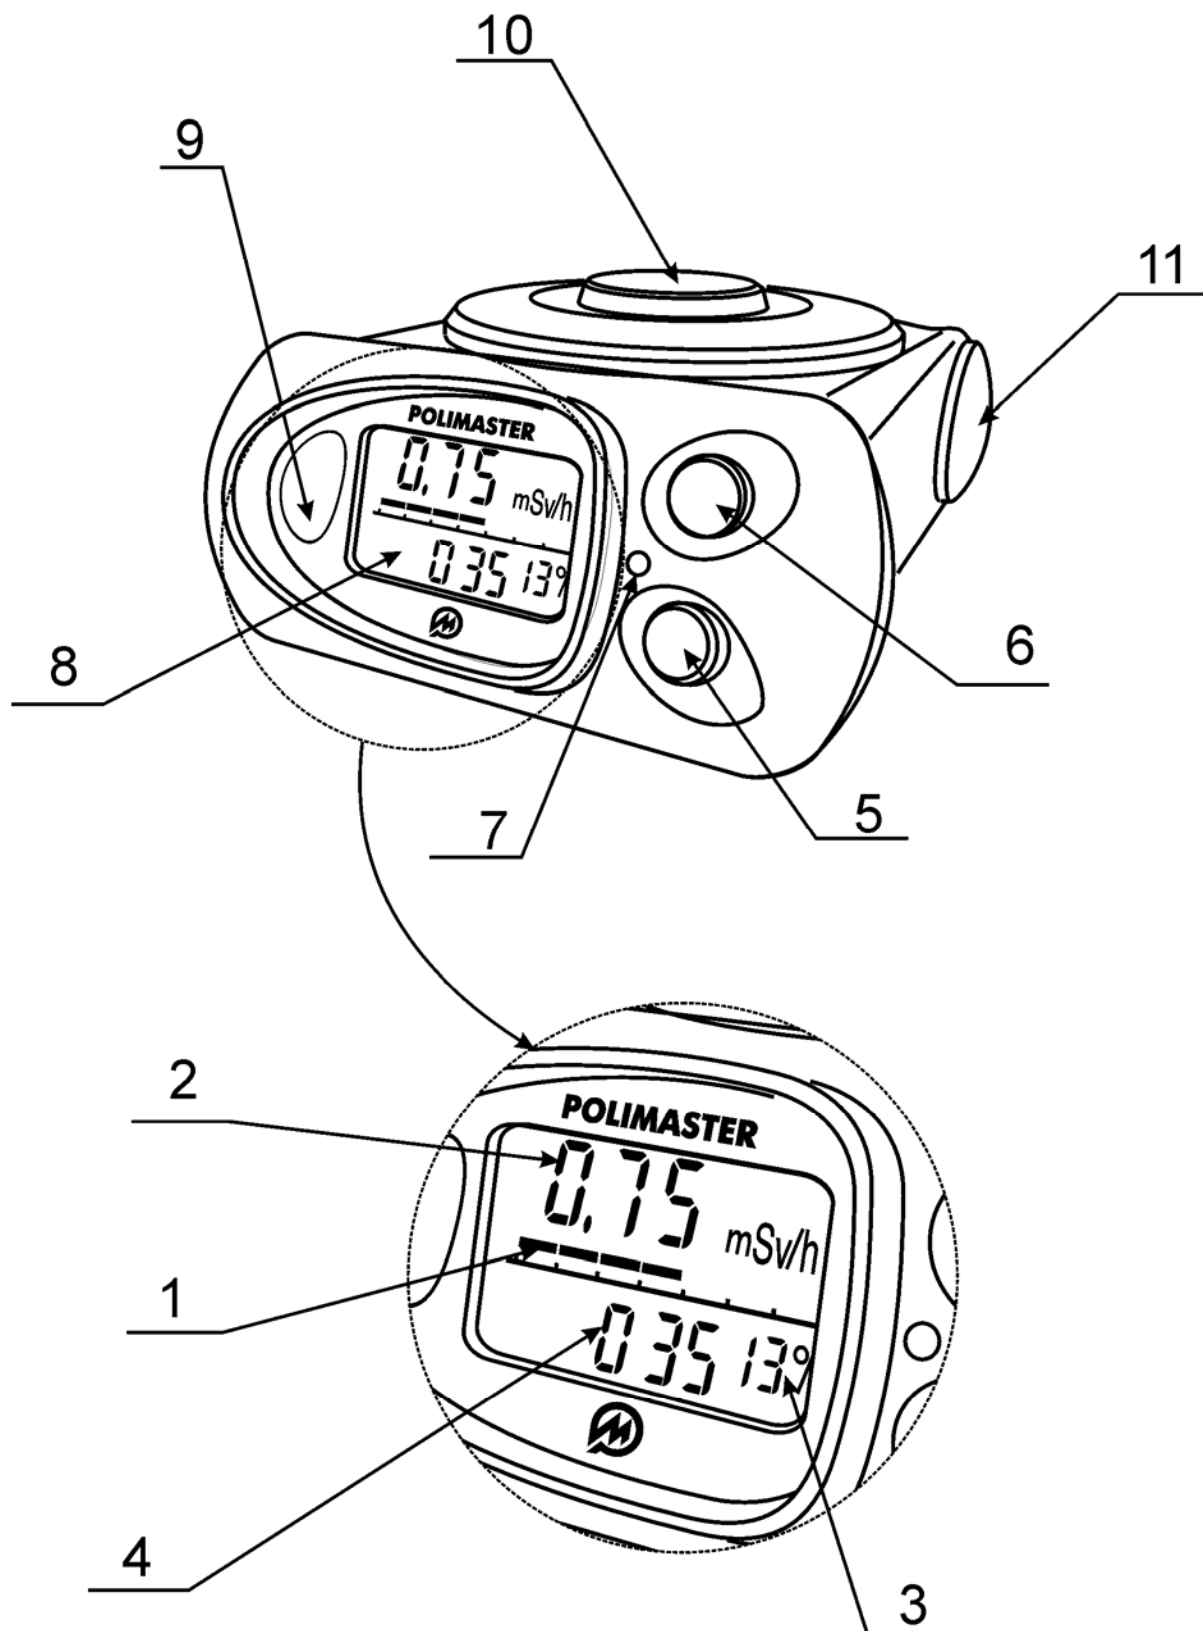

Figure 1.2 – General overview of the dosimeter
1.4.2 The device is designed as a unit housed in a plastic shock-proof case. General overview of the dosimeter and its parts are shown in Figure 1.2. Indication elements, positions **1-4**, are on the LCD (**8**).
- 5** – the **LIGHT/SET** button (the light/setting) (for switching on LCD backlight, switching on PC communication mode, entering the set mode and exiting it (see item 2.1.6).
On a display (2), figure 1.2 – DER values output
On a display (2), figure 1.2 – DE values output
On a display (2), figure 1.2 – dosimeter's number;
In the DE mode the indication (figure 1.2 display (3) and (4)) of values of time remaining for staying at the working place depending on the current measured DER and DE values is possible. Calculation of time is performed relative to the second preset DE threshold (the function may be switched on at the DE indication mode configuration).